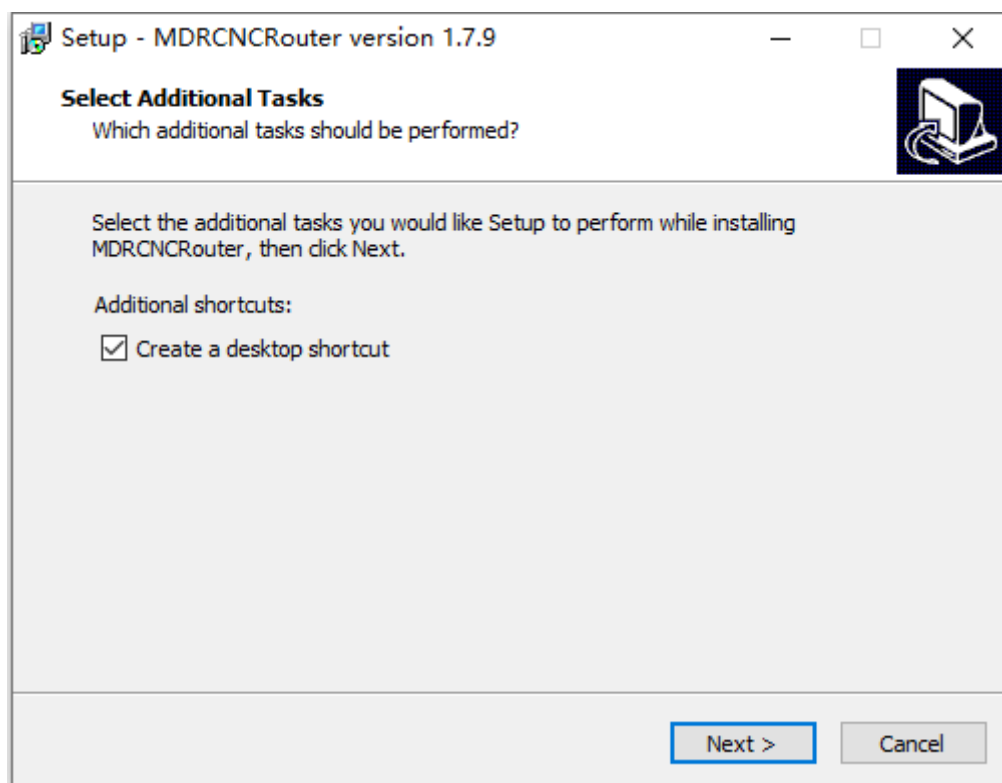

Figure 2.2-3
(4) Enter your password and click Next. The installer will pop up the installation target location prompt dialog box.
(5) Click Next. The installer enters the Select Additional Tasks dialog box. In this dialog box, you can choose whether to create a desktop shortcut. The installer is created by default. Users can click to uncheck and do not create shortcuts. As shown in Figure 2.2-3: